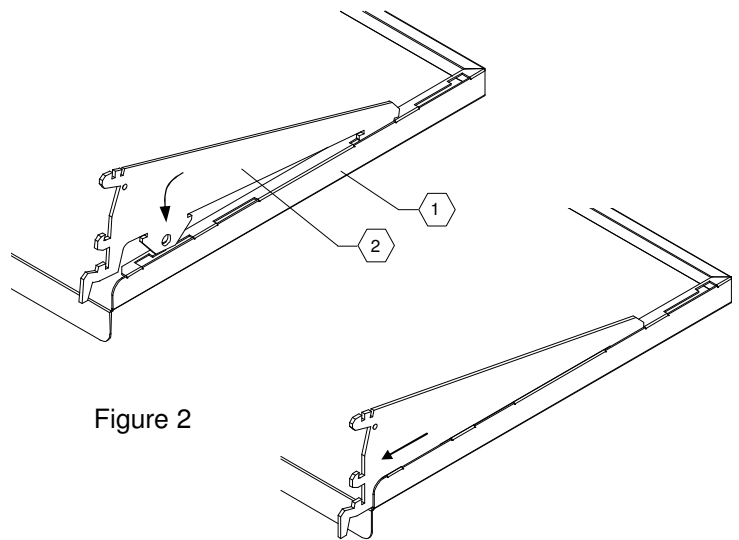

Figure 2
1. Insert mounting brackets (item 2) into slots on bottom of adjustable shelf (item 1) as shown in Figure 2. The lip can be positioned to the front or rear as required.